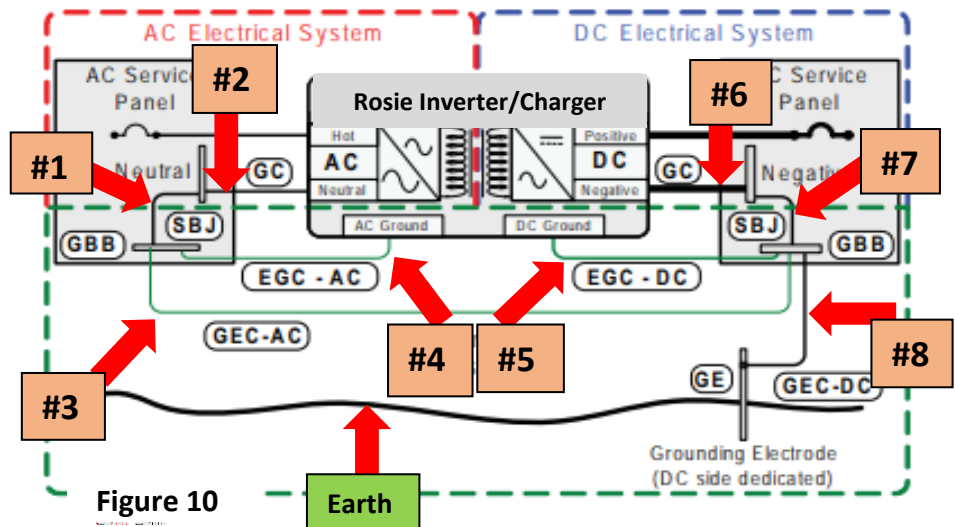

Figure 10
- If you have two ground rods - AC goes to one and DC goes to the other - then you **HAVE** to bond those two ground rods together with a Bonding Conductor (BC). The NEC also dictates the proper size of that BC.
- The **easiest** way to wire your ground system, and one that the NEC allows the smallest size of GEC, is shown in **Figure 10** below.